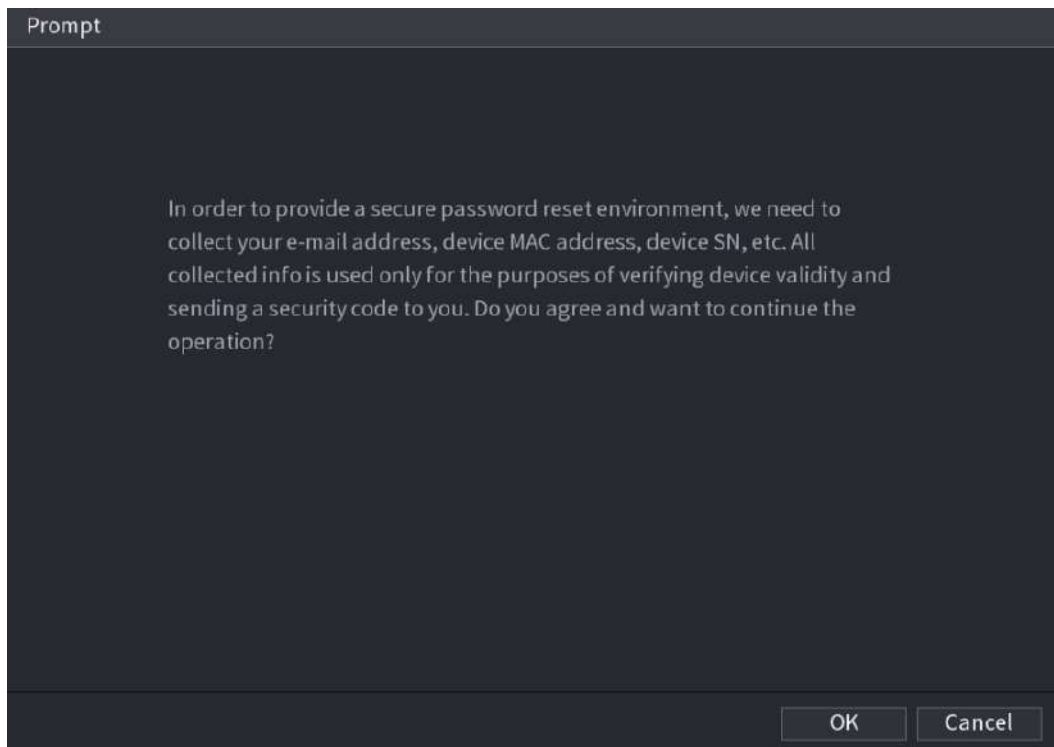
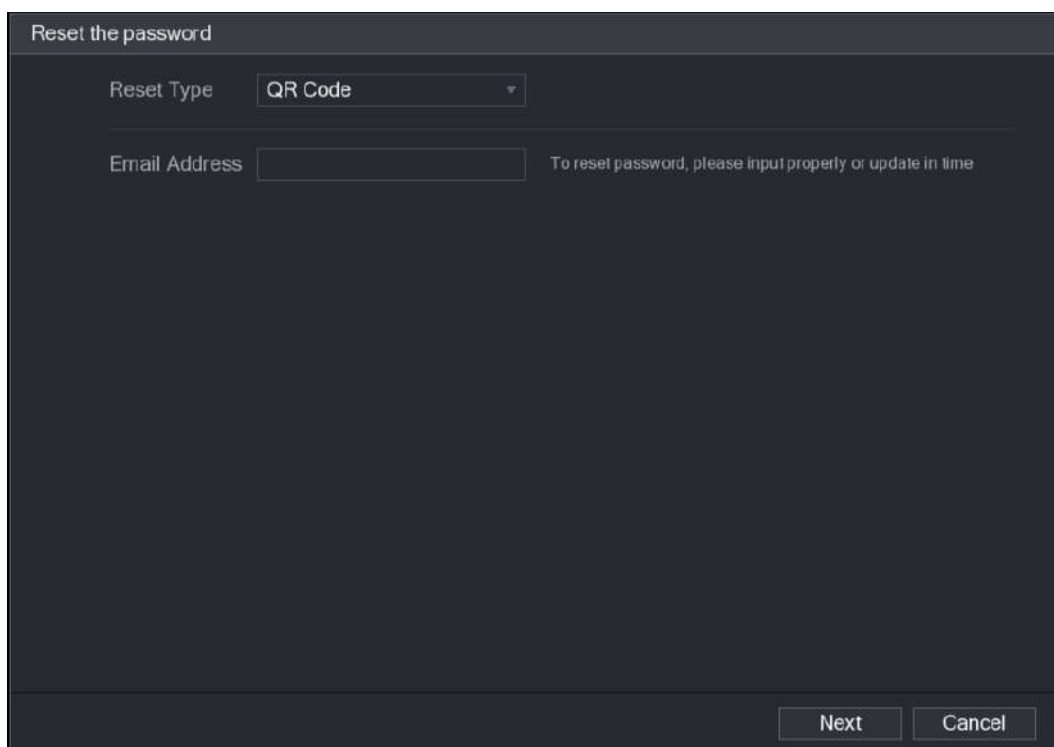

Figure 5-7
Figure 5-8
- If you did not set the reserved email address, the email entering interface is displayed. See Figure 5-8. Enter the email address, and then click **Next**, the **Prompt** message interface is displayed. See Figure 5-7.
- If you have set the reserved email address, the **Prompt** message interface is displayed. See Figure 5-7.
- 1) On the **Reset the password** interface as shown in Figure 5-8, in the **Reset Type** list, select **Security Questions**, the Security Questions interface is displayed, see Figure 5-10.